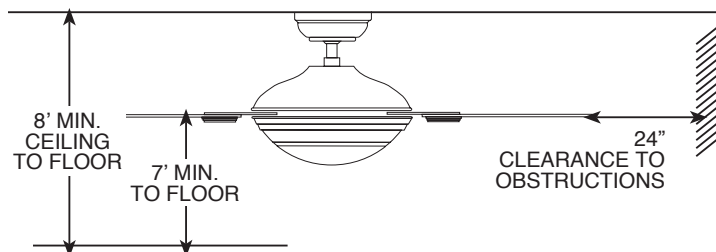

Figure 1. Wall Clearances
**B.** Installation hardware is included for a standard drywall or plaster ceiling. You will need a 4" x 1-1/2" or a 4" x 1/2" outlet box and wire nuts (2) which can be purchased from any hardware store or electrical supply house.
**C.** The fan blades must be mounted at least 7' above the floor. For maximum efficiency, they should not have any obstruction (walls, posts, etc.) within 24" of the blade tips. See Figure 1 for mounting distances.